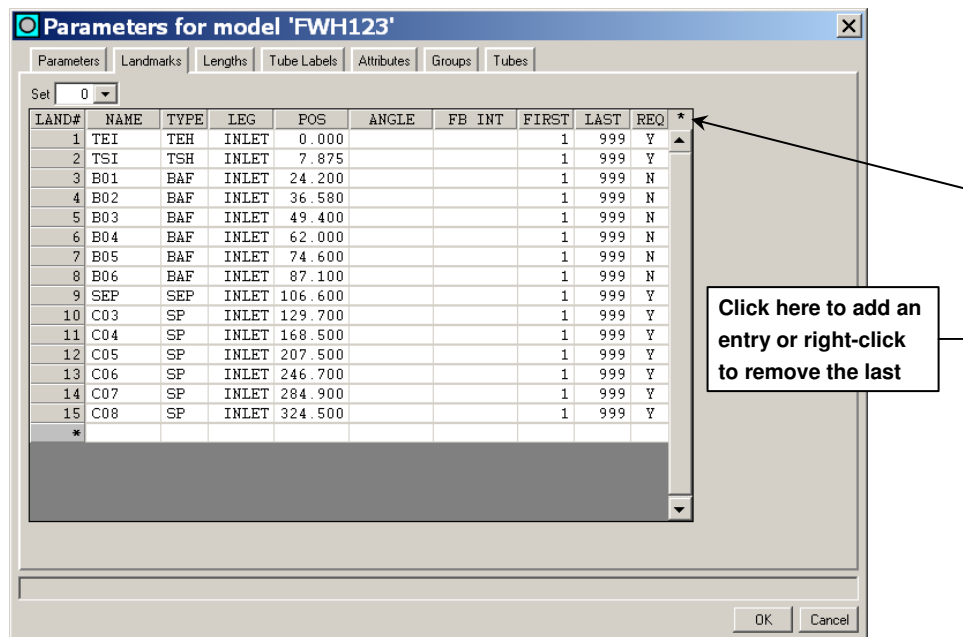

Figure 24. Landmarks Tab on the Main Parameters Dialog
Figure 24 shows the **Landmarks** tab of the main **Parameters** dialog. *Landmark* is a term used to describe the various internal support structures that many of the tubes pass through. These landmarks are easily detected during eddy current inspections. Most have a classic signal signature, which is easy to discern from other signals of interest, i.e., tube wall loss. If it is desired to use the auto-locating feature of the Analysis software, it will be necessary to *build* a landmark table. A *cmp* file may contain multiple sets of landmarks. For example, the landmarks detected by eddy current on the inlet leg of a typical 2-zone feedwater heater will be different from the landmarks detected on the outlet leg. If straight-lengths are being tested and the *cmp* file was *built* to display all the straight-lengths, then separate landmark sets must be used. To add an entry, click the gray box indicated in Figure 24 or right-click the box to remove the last entry. To delete an entry other than the last one, click on any field of the entry you wish to delete and press **Shift+Delete**. To insert an entry other than the bottom one, click on any field of the entry you wish the new entry to be inserted before and press **Shift+Insert**.
The landmark table shown in Figure 24 is for the 2-zone feedwater heater containing U-tubes shown Figure 1. Note that the tubesheet map is displaying all the straight-lengths. If it were displaying only the U-tubes, only half the tube ends would be shown. The table was *built* from the inlet tube end to the last tube support before the U-bend. Note that the distance (**POS**) value is cumulative – that is, each landmark is referenced to the *zero* landmark. For example, landmark 'C08' is
Figure 25 shows the other landmark set for the outlet leg of the tubesheet shown in Figure 1. The **Set** drop-down list now shows the number '1' vs. '0' (*zero*) as in Figure 24. This landmark *set* is built much the same way that the inlet landmark set was built in Figure 24. The **NAME** column now reflects the names of the outlet leg landmarks. Note that the **LEG** column is still set to **INLET**. Since this *cmp* file is showing both tube ends or *legs* of a U-tube component, we must treat each leg as a separate tube bundle for auto-locate to work correctly. Think of the inlet tube end as being the inspection reference tube end.
User-defined landmark types may be used as well. For example, the subcooler end-plate in Figure 24 is *typed* and *named* 'SEP'.
- **REQ:** Abbreviation for 'required.' Enter **Y** for yes or **N** for no. A **Y(es)** forces auto-locate in Analysis to label this landmark for every tube in the **First - Last** range of rows – even if the landmark is not present. An **N(o)** allows the Analysis software to detect if the landmark is present and, if so, locate and label it. In Figure 24, the baffles are marked as **N** in the **REQ** column because the baffles are not present in every tube of every row.